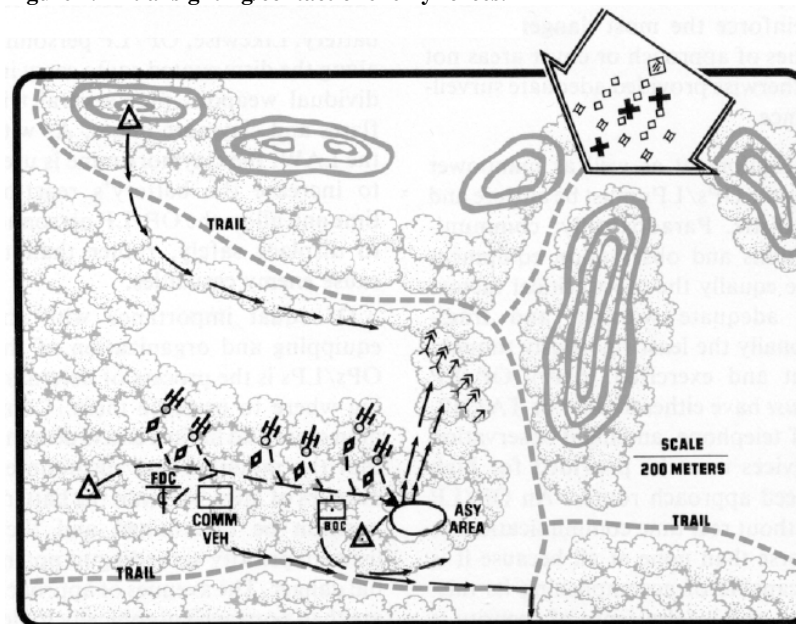

Figure 2. Deployment of screening force for hasty displacement.
• **Phase II—screening force deployment for hasty displacement (figure 2):**